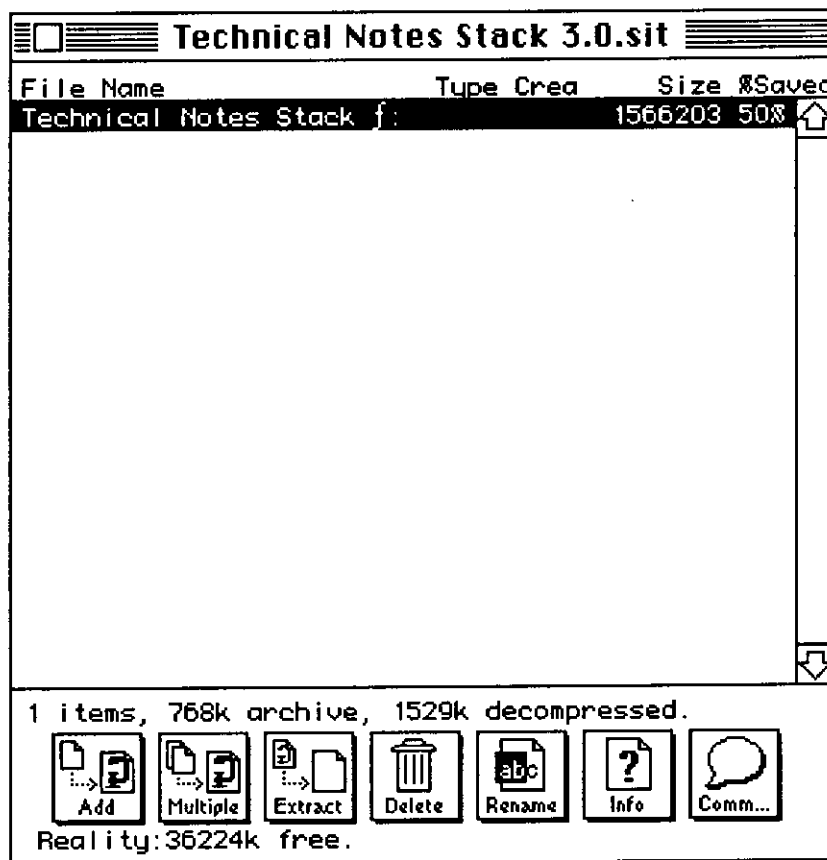

Figure 3—Archive Dialog Box
- 3) Double-click on the file “Technical Notes Stack 3.0.sit” on your hard disk, and if you have a copy of StuffIt on your disk, you should get the dialog box in Figure 3. If your Desktop file has not been updated, you may need to open this file from within the Stuffit application.